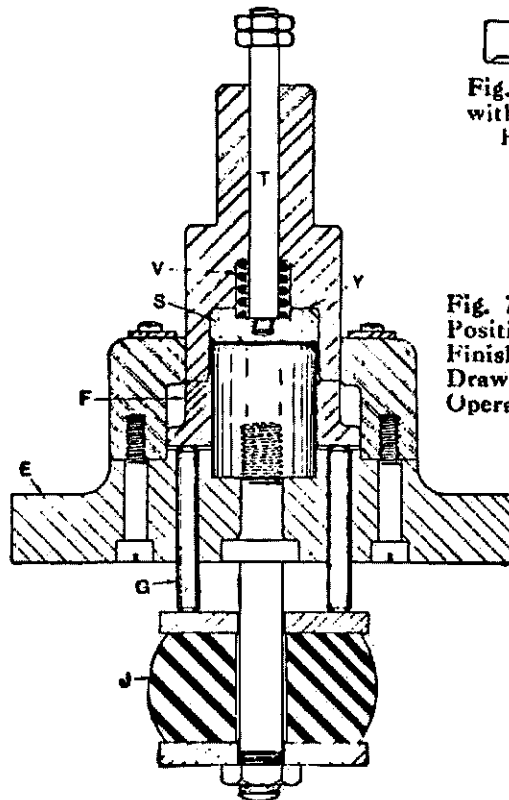

Fig. 7.—
16. Silencing means according to Claim 1 as shown in Figures 2, 3, 4, 5 and 6, or modified according to Figures 7 and 8 of the accompanying drawings. 25